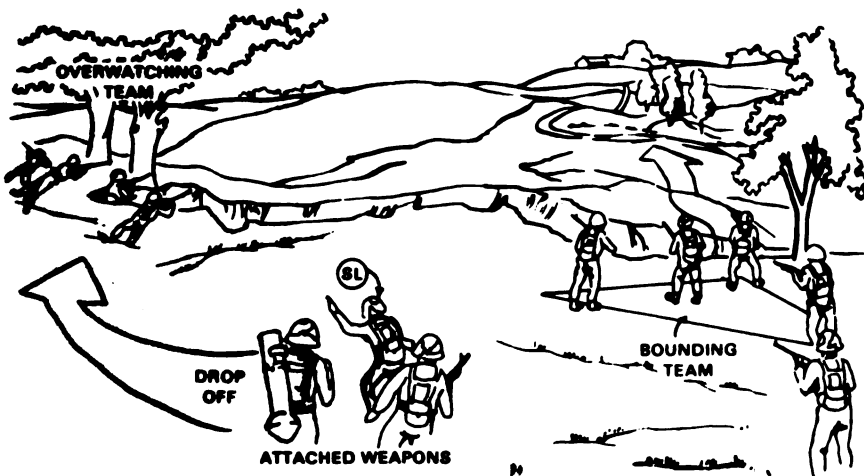

Figure 3. Bounding overwatch technique.
c. Use the BOUNDING OVERWATCH technique when contact is expected. One fire team advances while the other team is in a good position ready to suppress enemy fires. The key to this movement is the proper use of terrain. ALL MEN IN THE SQUAD MUST MAKE USE OF ALL COVER AND CONCEALMENT. The chance of exposure to the enemy must be avoided. A bound is normally not more than 100 to 150 meters forward of the overwatch team (fig. 3).